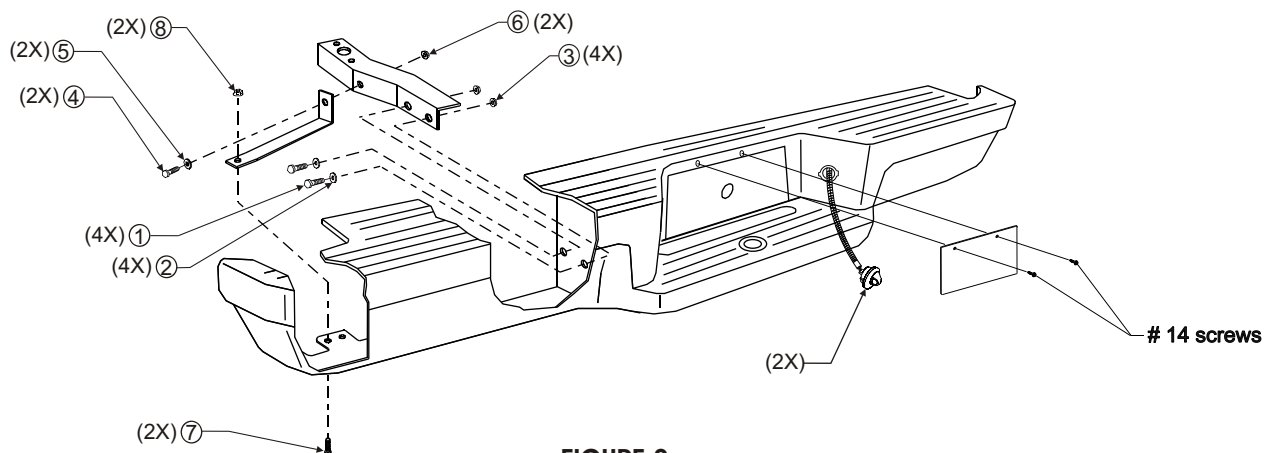

FIGURE 2
- STEP 5. Pass (1) 1/2"-13 X 1.25" hex head bolt and (1) 1/2" flat washer through each mounting bracket hole and hitch Hole. Refer to Figure 2.
- STEP 13. Hand tighten (1) 3/8"-16 flange lock hex nut onto each bolt. Use a 7/32" hex key to prevent each bolt from rotating while tightening each nut. Using a 9/16" socket, torque each nut 32-37 ft. lbs. (44-49 N m)
- STEP 14. Use #14 self-tapping screws supplied in the light kit to install license plate. Refer to Figure 2